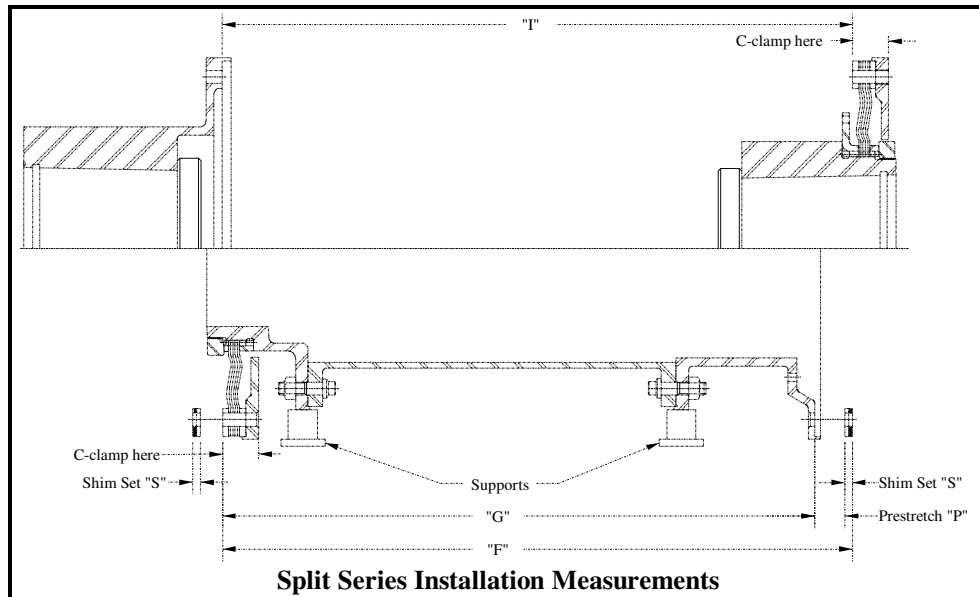

Figure 4-10
- 4.4.4.1 When installing and servicing a split series coupling, refer to the relative section for each series involved. For example, an RR/RM coupling: refer to Paragraphs 4.4.1, 4.5.1, and 4.7.1 for information relating to the RR end and refer to Paragraphs 4.4.2, 4.5.2, and 4.7.2 for information relating to the RM end (see Figure 4-10).